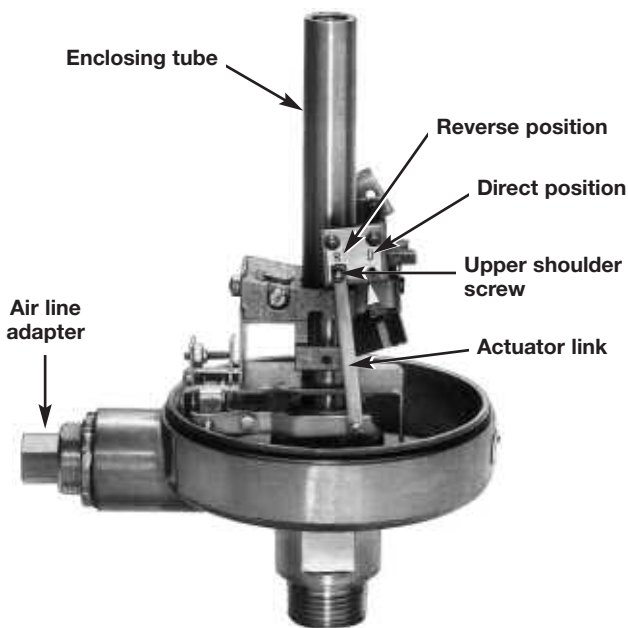

Figure 3
1. First remove the upper shoulder screw from the actuator link and move it from the direct (D) position to the reverse (R); refer to Figure 3.